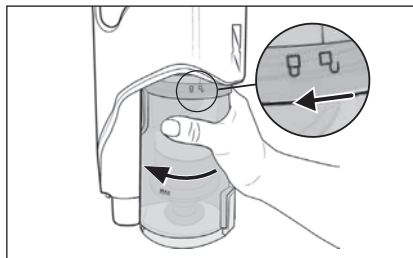

Fig. 22
- 2) To remove the dirt container **7** from the appliance, turn it towards the symbol  (open) until it can be detached from the appliance (see Fig. 22).